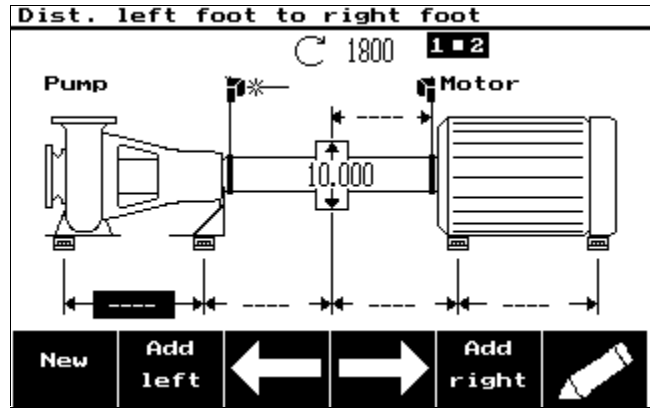

Figure 9
- 1) The first step is to press the **Add feet** softkey. This automatically configures the left machine as a moveable four-footed machine (see Figure 9). Then enter all necessary dimensions.